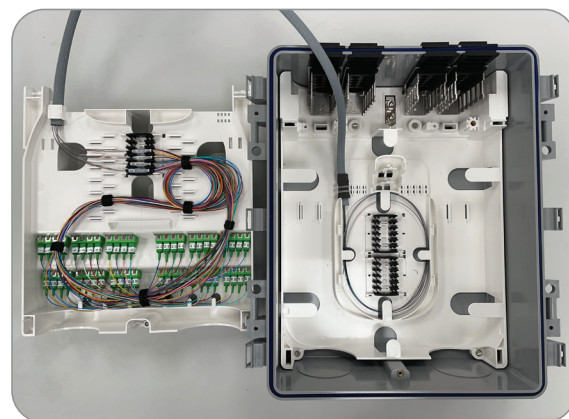

Figure 39
7. Place to the side of the enclosure in a safe area. DO NOT “hang” or leave mesh sheathing under tension, as there is fiber inside (**Figure 39**).